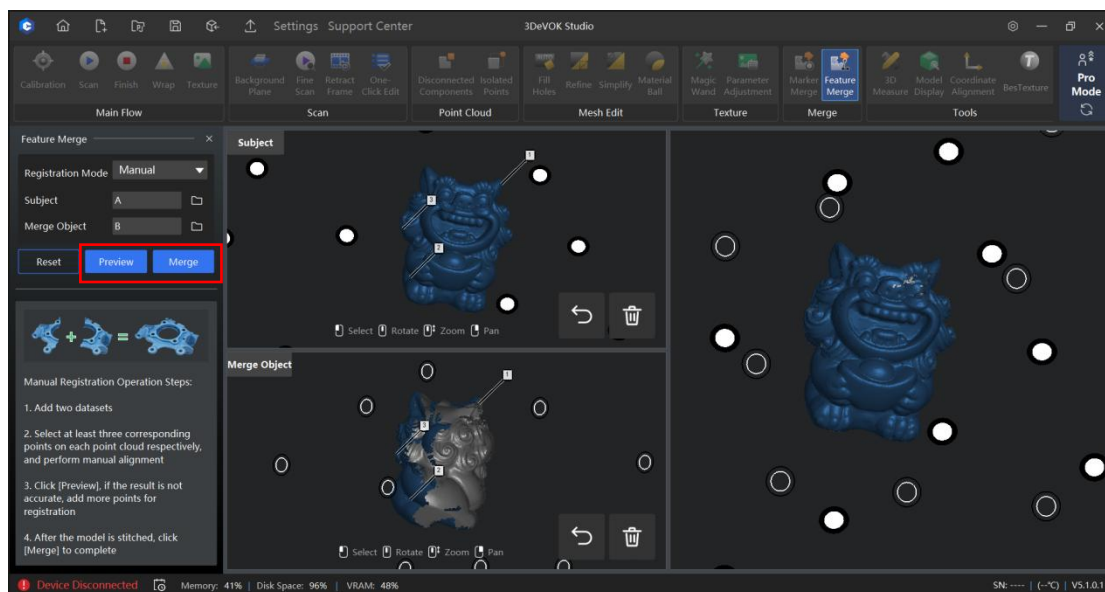

Figure 9-5 Manual Registration and Preview
6. Click the "Preview" button to view the merge effect in the right-hand window, as shown in Figure 9-5. Click "Merge" if the object is correctly combined.